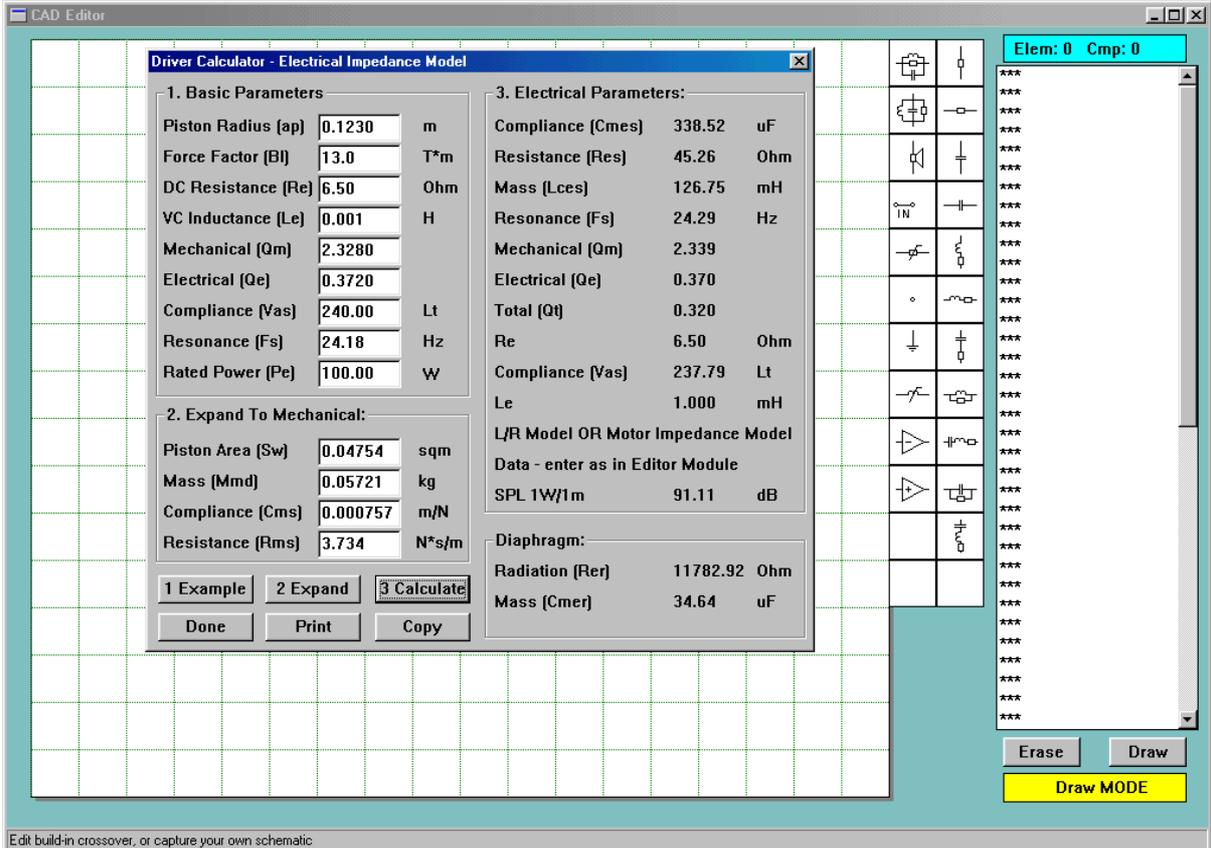
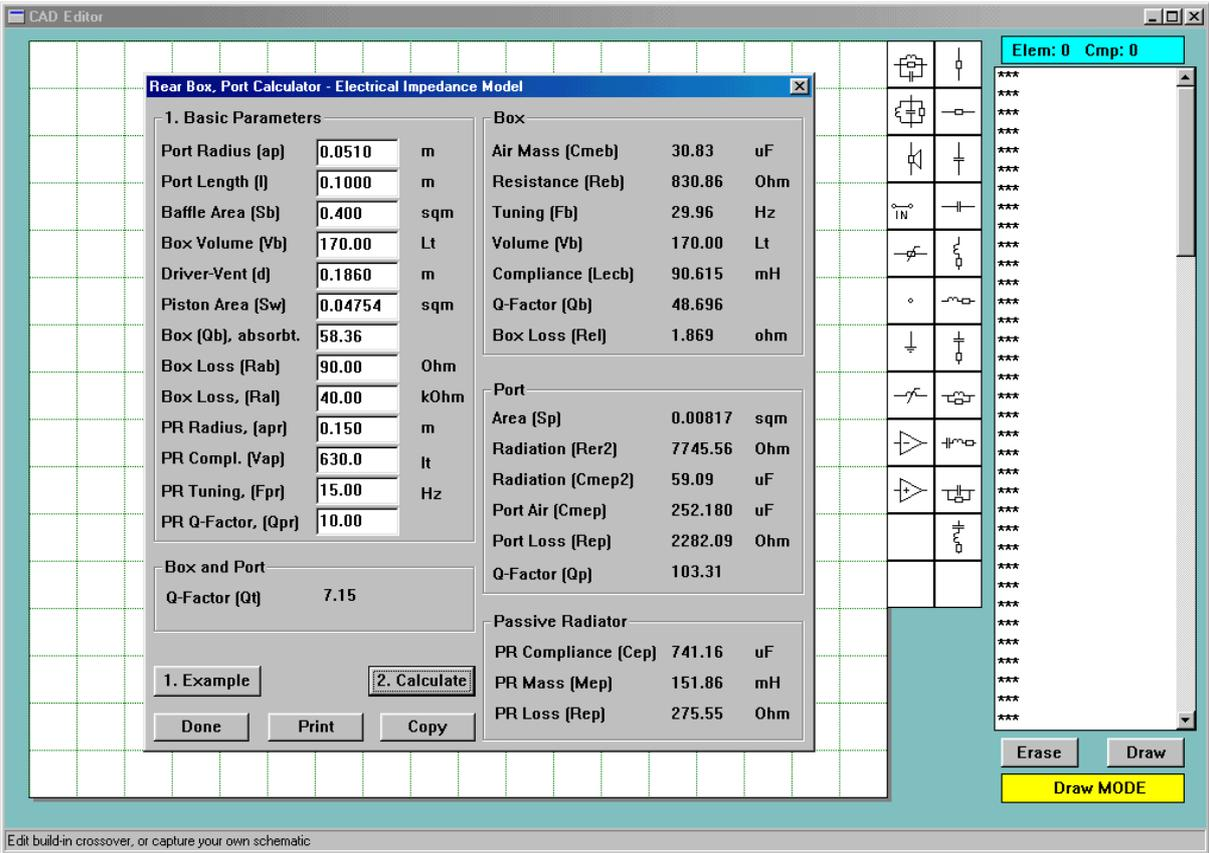
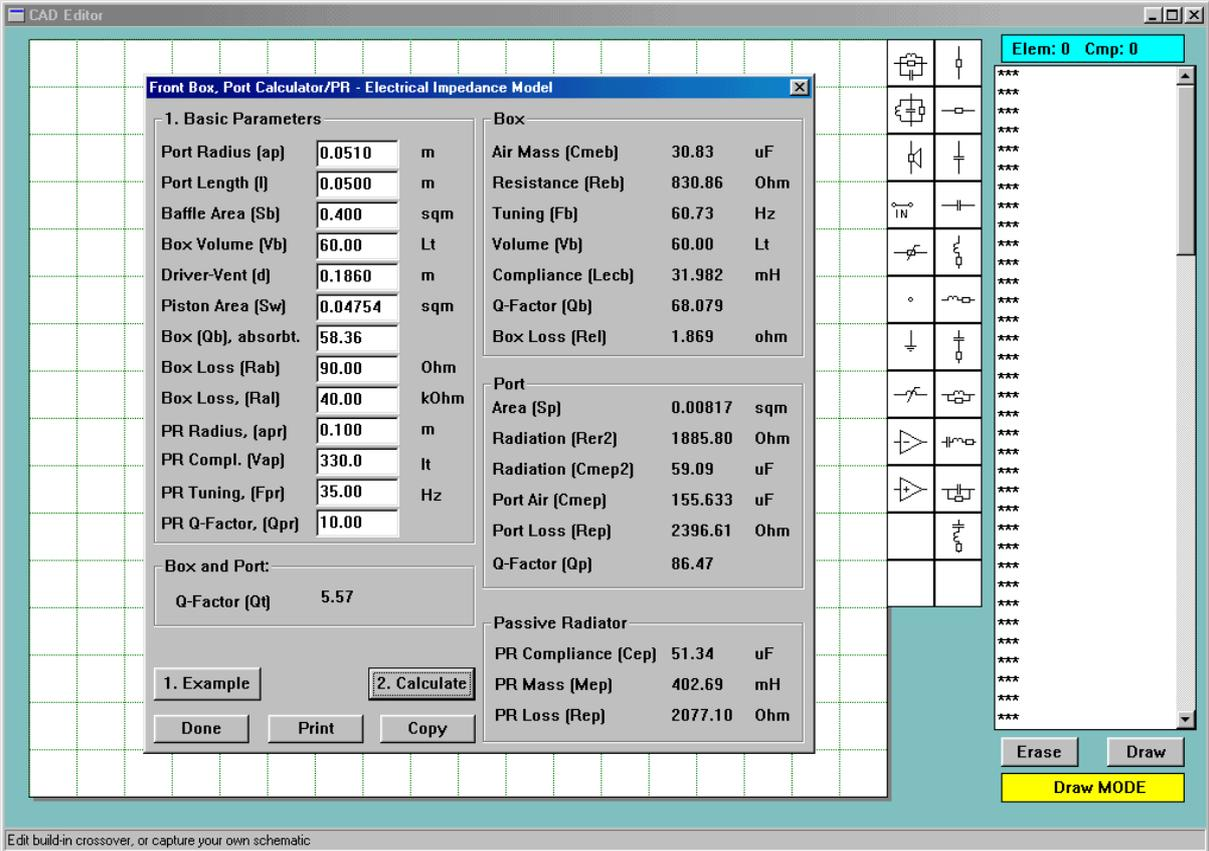

Fig 2.4 Driver Calculator – Electrical impedance
Fig 2.5 Rear Box – Electrical impedance
Fig 2.6 Front Box – Electrical impedance
4. Calculators generating electrical model parameters operate the same way and for its input, require parameters explained above - see Fig 2.4, Fig2.5 and Fig 2.6.